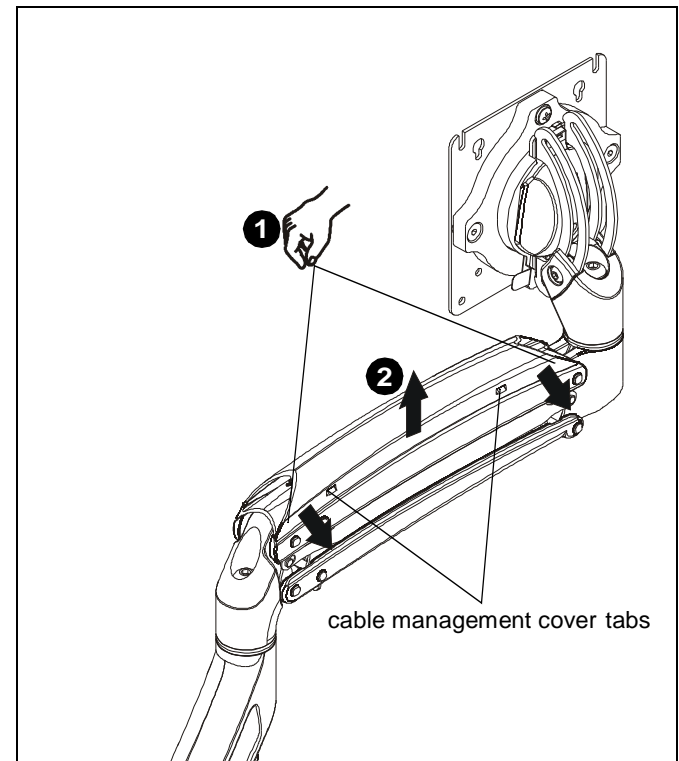

Figure 18
1. Press insides of cable management covers at both ends to unhinge tabs on either end of cable management cover on upper arm. (See Figure 18)
2. Lift cable management cover up until tabs are unhinged and cover is in the "open" position. (See Figure 18)